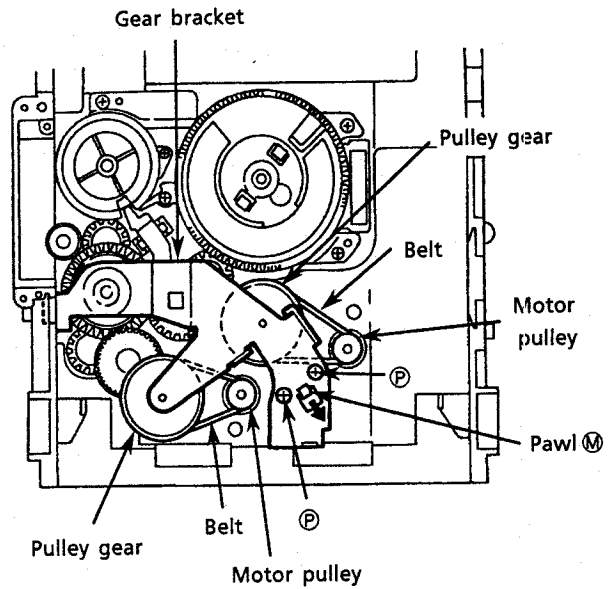

Fig. 36
4. Rotate the Cam gear L so that the select gear's ① is positioned as shown in Fig. 36.
5. Remove 4 screws ② securing the cam unit which includes the cam gear L and Cam R1, R2 ass'y. (See Fig. 36.)
(See Fig. 36.)
2. Press the pawl ② securing the gear bracket to the arrow in the figure to remove the gear bracket. (See Fig. 36.)
4. Remove each belts from the both actuator motor pulleys and the pulley gears. (See Fig. 36.)